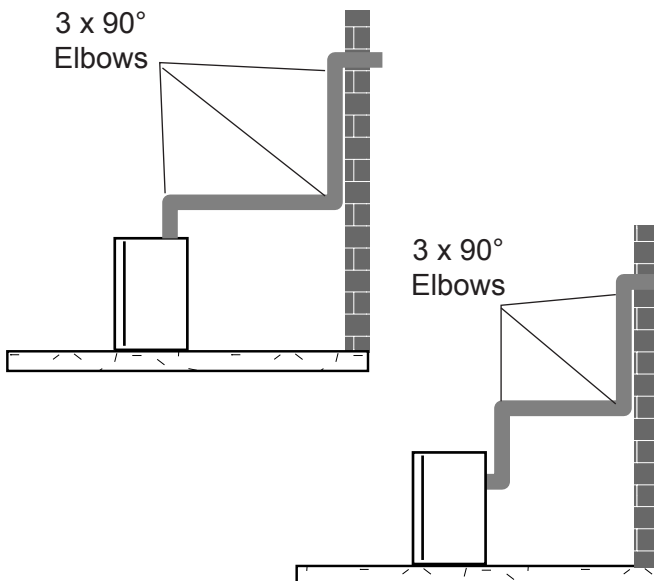

Figure 24 - Maximum Three (3) 90° Elbows Per Installation
- The maximum number of 90° elbows per side wall installation is three (3). *See Figure 24.*